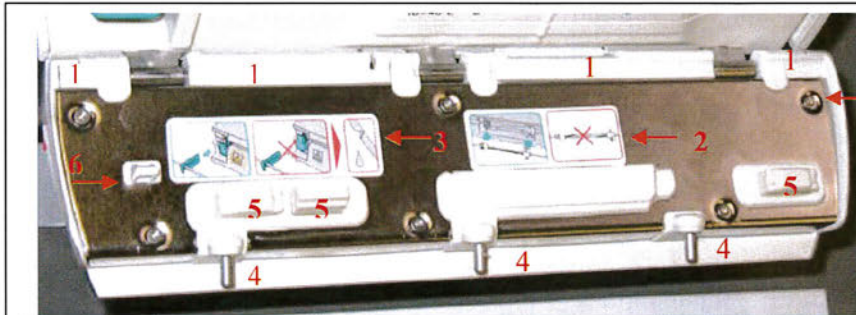

Fig.: 7-4
3.4.1 Open the front door by pressing the button. Confirm action by selecting “Yes.” Inspect the following: (See figure 7-4)